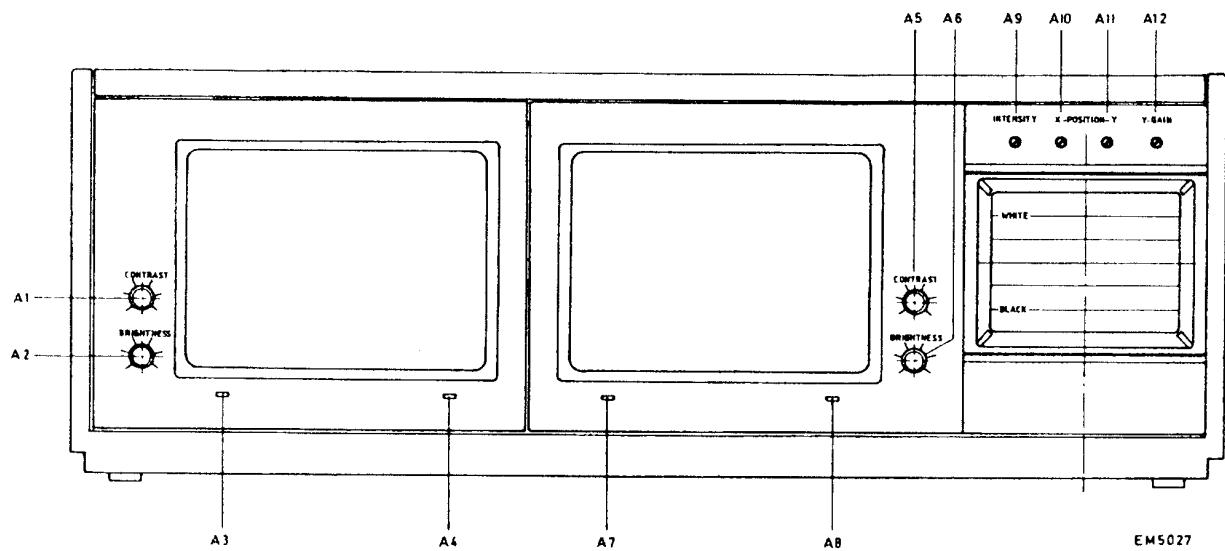

Fig. 7.3, Panel controls - Display monitors and Videoscope
7.1.4 DISPLAY MONITOR controls (see Fig. 7.3)
7.1.5 VIDEOSCOPE controls (Fig. 7.3)
The reference numbers associated with each control refer to annotations in Figs. 7.3 to 7.8 inclusive.